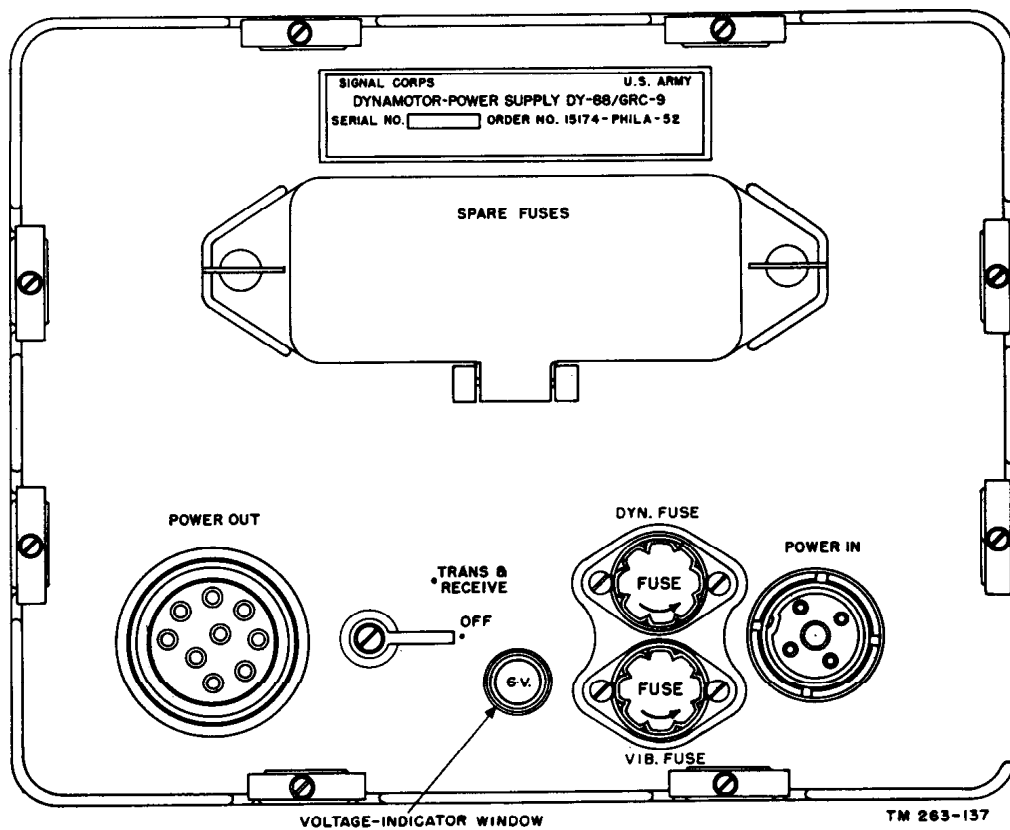

Figure 45. Dynamotor-Power Supply DY-88/GRC-9, front panel controls.
*a. Dynamotor—Power Supply DY-88/GRC-9 (fig. 45).*